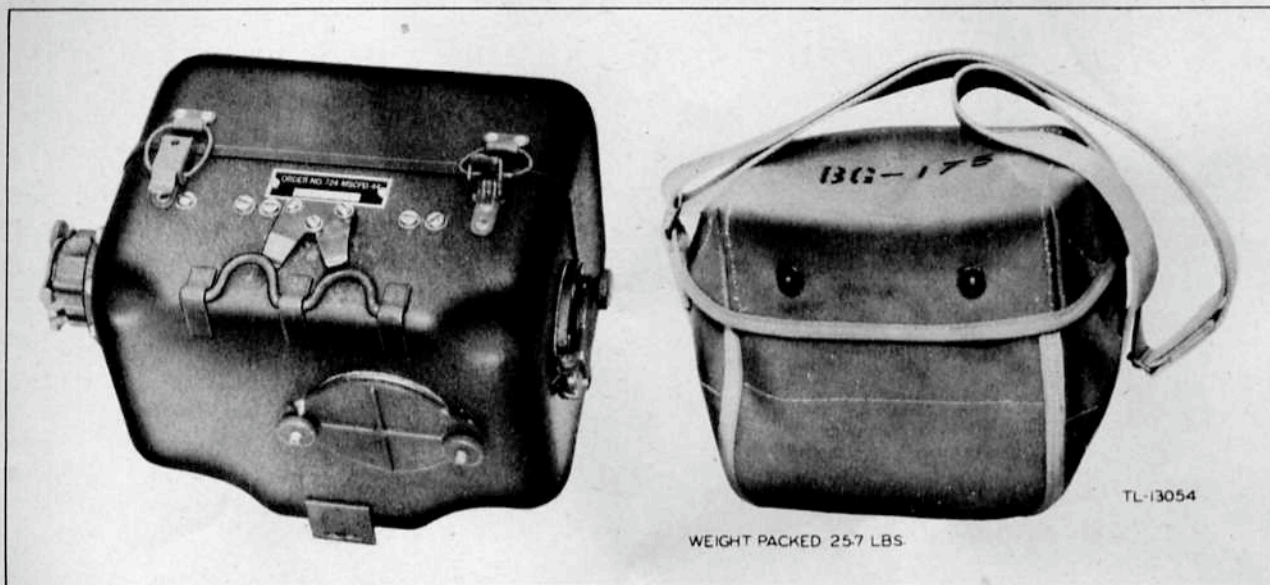

Figure 3. Generator GN-58 and Bag BG-175 for carrying Generator GN-58.
8. GENERATOR GN-58. Generator GN-58, shown in figure 3, is a hand-cranked generator which supplies all voltages required for the operation of Radio Receiver and Transmitter BC-1306. The output voltage of the high-voltage section is not as high as that delivered by the vehicular power supply because the generator would be too difficult to crank. The difference in transmitter power output when operated from the hand generator
All of these accessories are carried in the antenna equipment roll, Roll BG-174. The generator itself is carried in Bag BG-175, shown in figure 3.